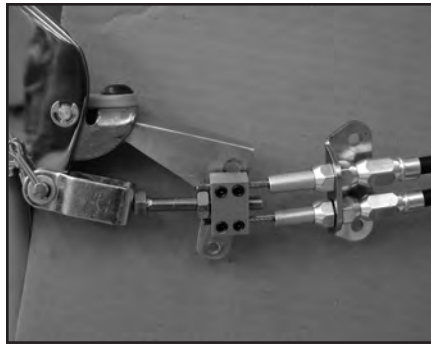

Figure 13
- Attach Cable Block to equalizer or hand brake handle by sliding Cable Block clevis over either the equalizer or the handle attachment point. Push clevis pin completely through the holes in the clevis. Slide washer over the clevis pin and insert cotter pin, but do not bend over, figure 13.